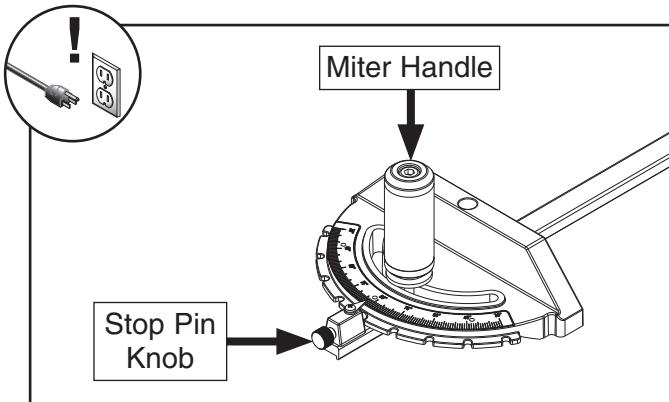

Figure 135. Miter gauge adjustment components.
3. Loosen miter handle and pull stop pin knob (see **Figure 135**).